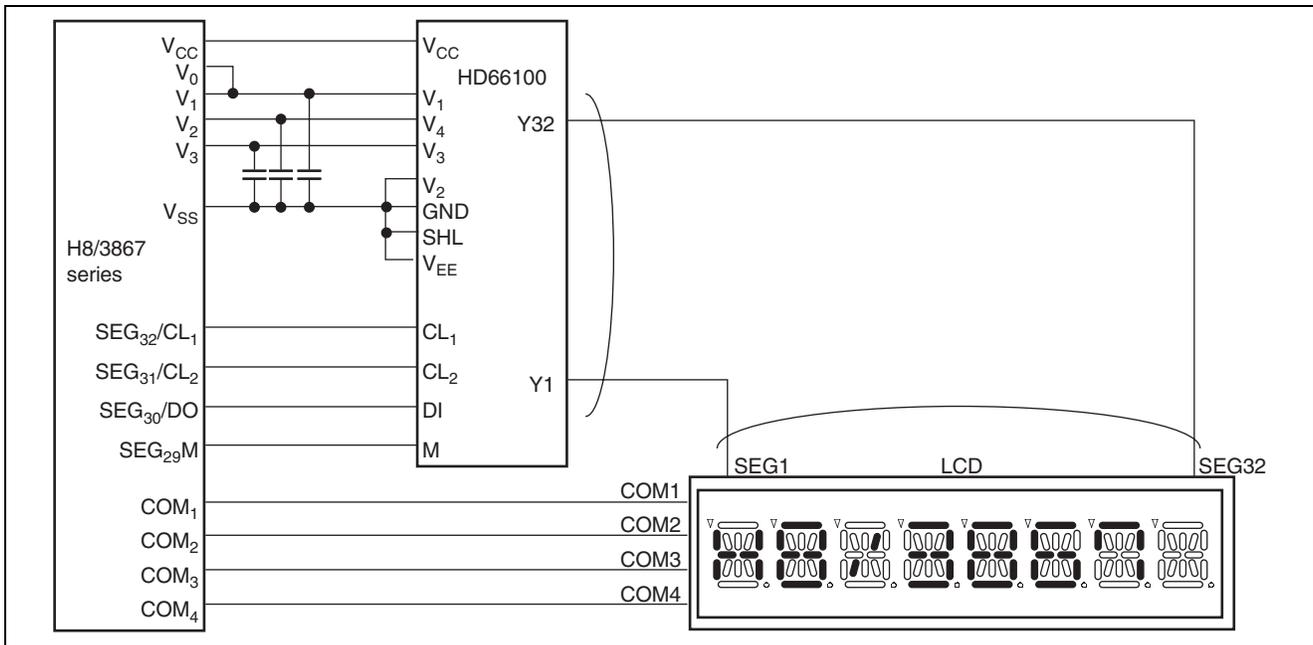

Figure 1.1 Examples of HD66100 and LCD Module Connection by Segment Extension, and LCD Display
5. Figure 1.1 shows an example of liquid crystal display module and HD66100 connection, and an example of LCD display in this sample task.